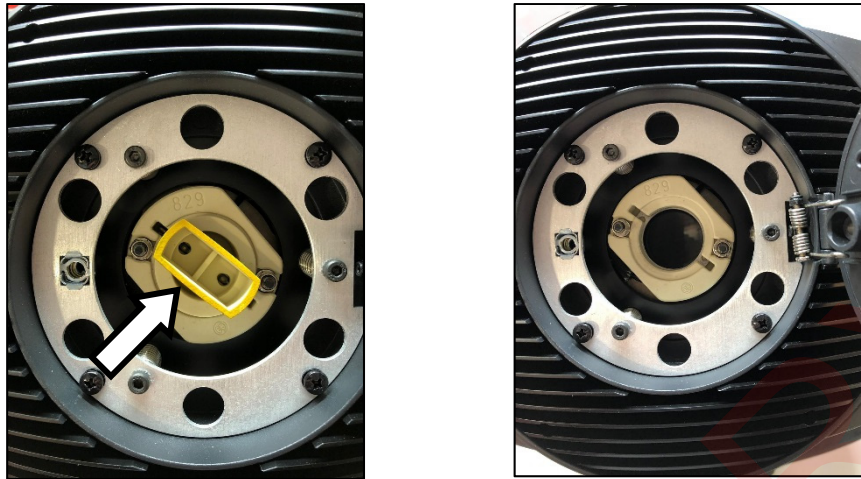

Figure 7. Removing the lamp
5. See Figure 7. Twist the lamp base (arrowed) counterclockwise to release its bayonet mount, then remove the lamp from the fixture.